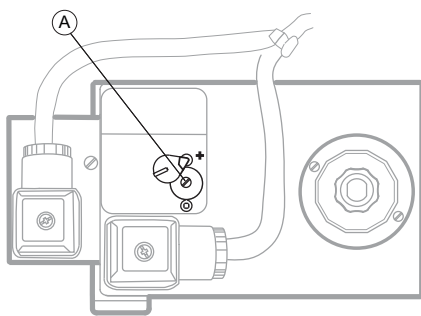

Figure 4.5 A: Adjustment screw for controlled gas supply pressure.
13. Measure the controlled gas supply pressure by fitting a pressure gauge at pressure test point P_a at the rear of the GasMultiBloc (the dehumidifier must be running). The pressure should be 15 mbar. Adjust as necessary using the screw, see (A) in *Figure 4.5*.